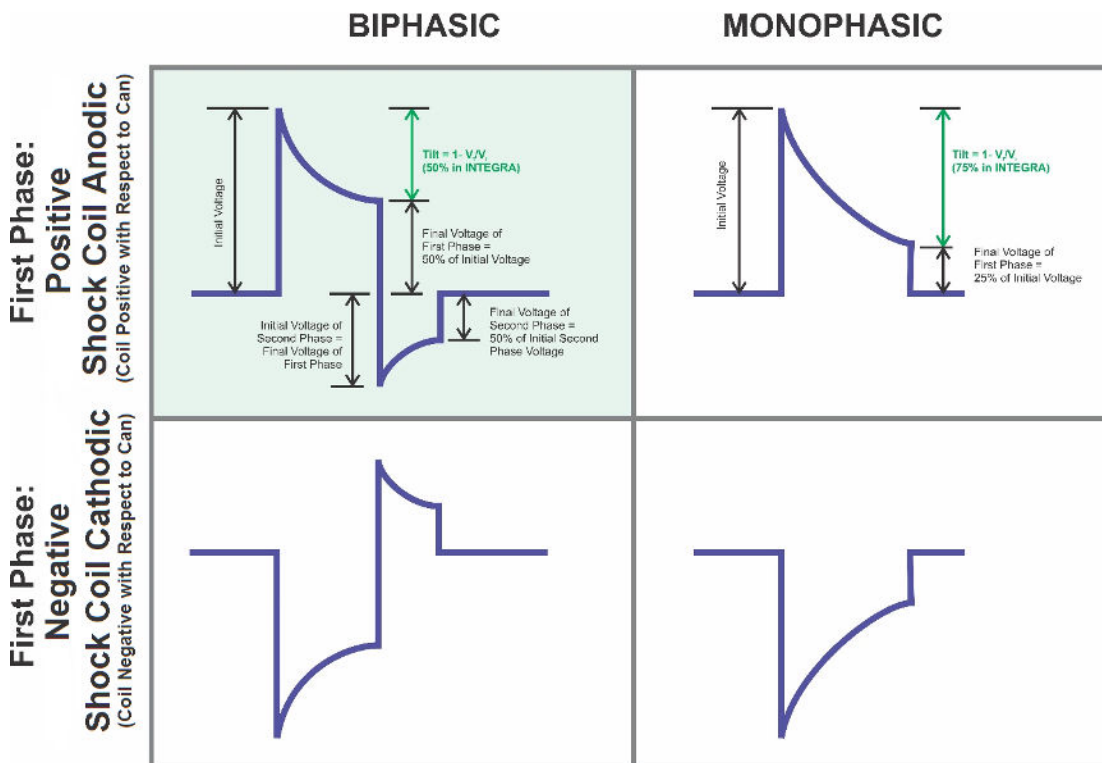

Figure 60: Illustration of the Shock Waveforms Options in the OPTIMIZER Integra CCM-D IPG
- **Shock Waveform:** This parameter specifies the waveform (Biphasic – 50/50 tilt) or (Monophasic – 75% tilt) used for all high voltage (HV) therapy pulses. **See Figure 60.**
- **Shock Waveform Polarity:** This parameter sets the polarity of the high voltage (HV) therapy pulse for the first shock of an episode. **See Figure 60.**